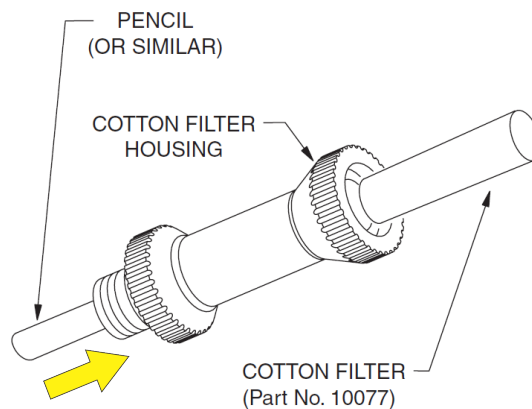

Figure 72: Cotton Filter Removal
1. Using a pencil, push the cotton filter from the threaded end of the housing, as shown in Figure 72: Cotton Filter Removal, then remove it.